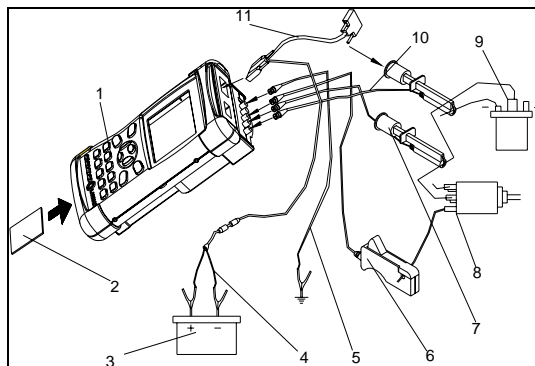

Fig.4-06
**CONNECTION 1:** The connection for ignition waveform test of engines with distributors is shown in Fig.4-06. This method is applicable to engines with secondary high-tension cores.